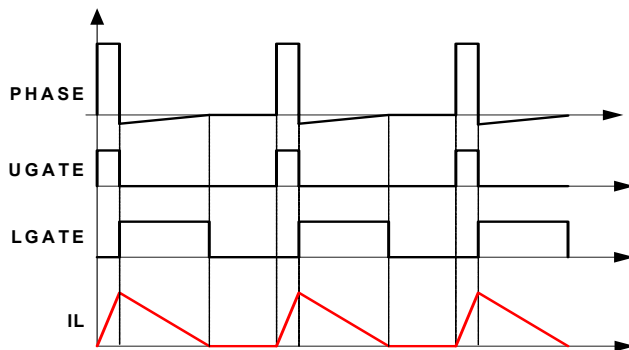

FIGURE 11. DIODE EMULATION
The ISL62771 can operate in Diode Emulation (DE) mode to improve light-load efficiency. In DE mode, the low-side MOSFET conducts when the current is flowing from source-to-drain and does not allow reverse current, thus emulating a diode. Figure 11 shows that when LGATE is on, the low-side MOSFET carries current, creating negative voltage on the phase node due to the voltage drop across the ON-resistance. The ISL62771 monitors the current by monitoring the phase node voltage. It turns off LGATE when the phase node voltage reaches zero to prevent the inductor current from reversing the direction and creating unnecessary power loss.
If the load current is light enough (see Figure 11), the inductor current reaches and stays at zero before the next phase node pulse and the regulator is in Discontinuous Conduction Mode (DCM). If the load current is heavy enough, the inductor current will never reach 0A and the regulator is in CCM, although the controller is in DE mode.